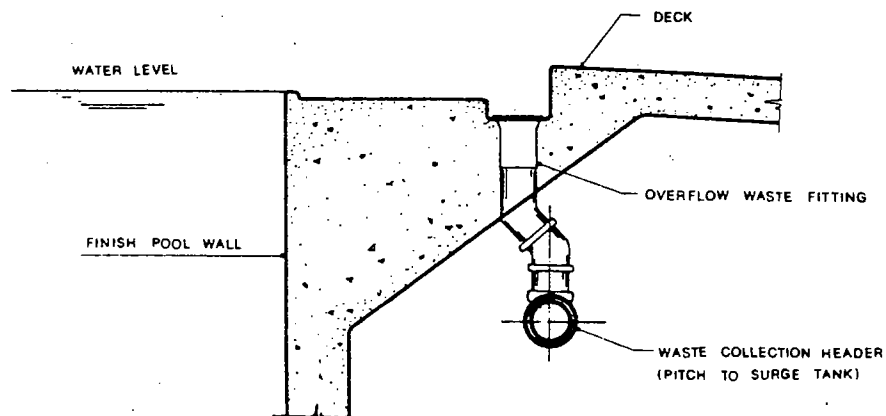

Fig. 9 Roll out.
c. **Roll out.** (Fig. 9) Basically a deck-level installation. Drains are located either in horizontal portion of shallow trench or in corner.